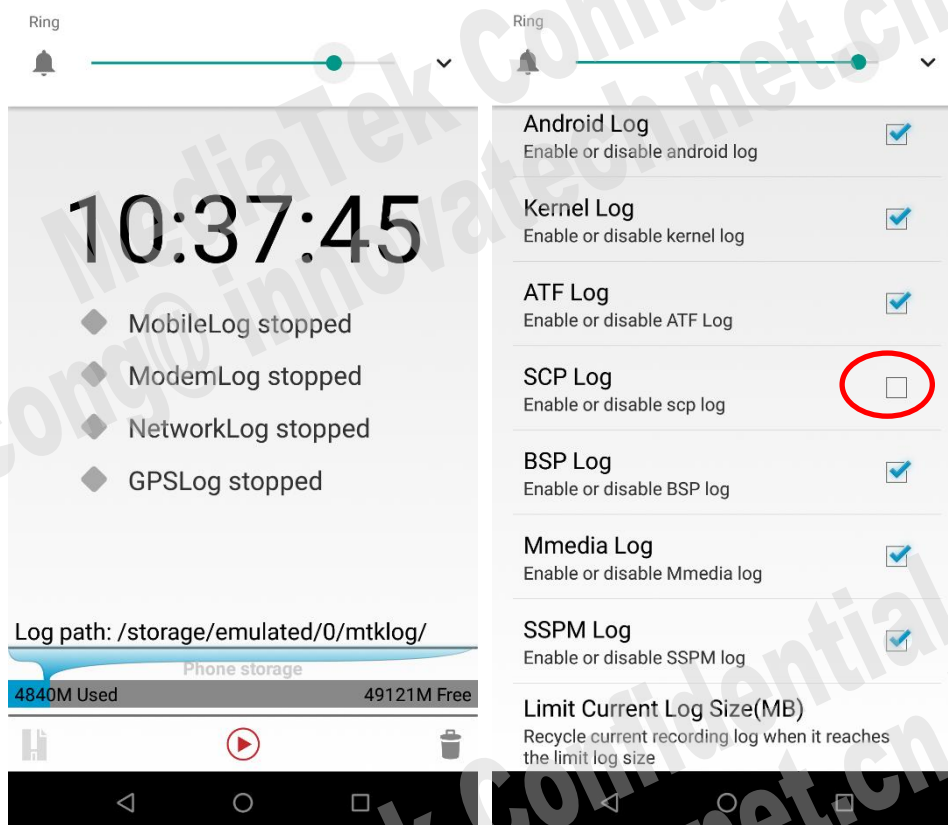

Figure 9-3. Disable SCP Mobile log
1. Make sure the SCP log in MTK Logger is disabled (as shown in Figure 9-3.)